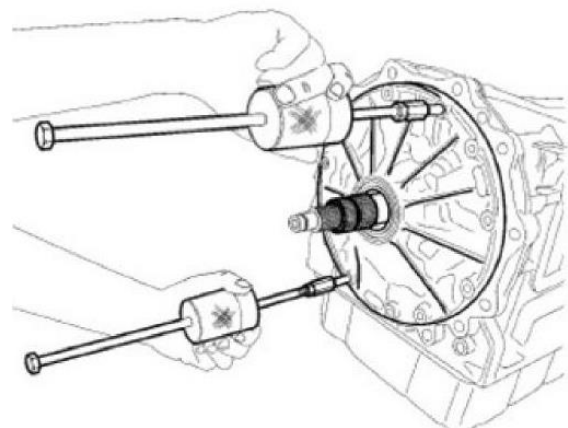

Figure 5 – Slide Hammer
- 34. Remove the bolts securing the oil pump to the transmission case and use Slide Hammers C3752 with adapters 9981 to remove the oil pump assemble from the transmission spline (Figure. 5).